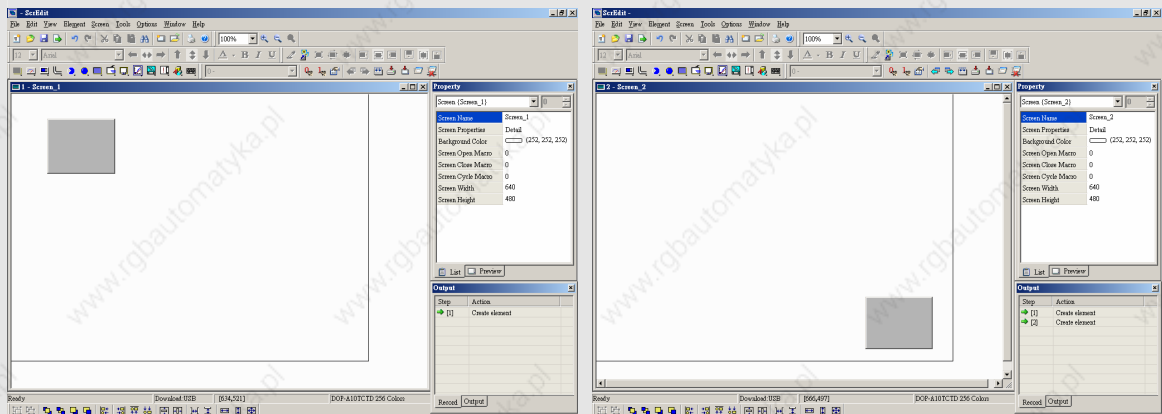

Fig. 2.8.4
3. Create a button element on these two screens respectively and do not change the element default property as the Fig. 2.8.4 below.